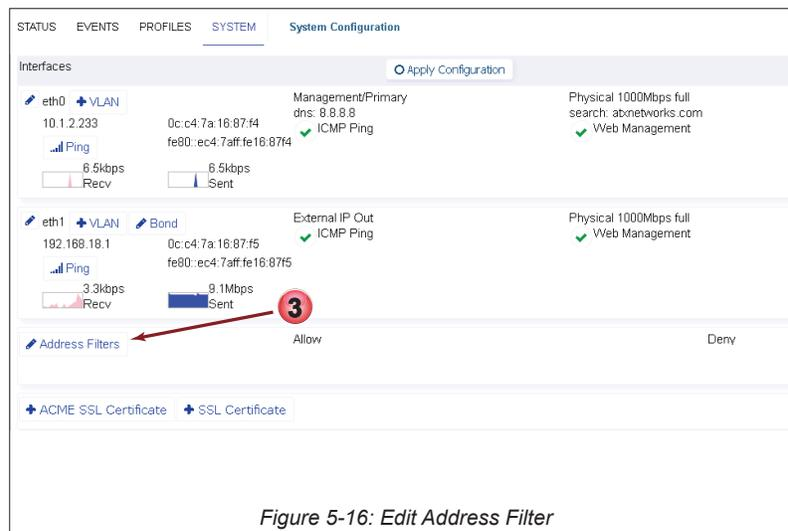

Figure 5-16: Edit Address Filter
3. Click the **Edit Address Filters** Address Filters button, Figure 5-16.